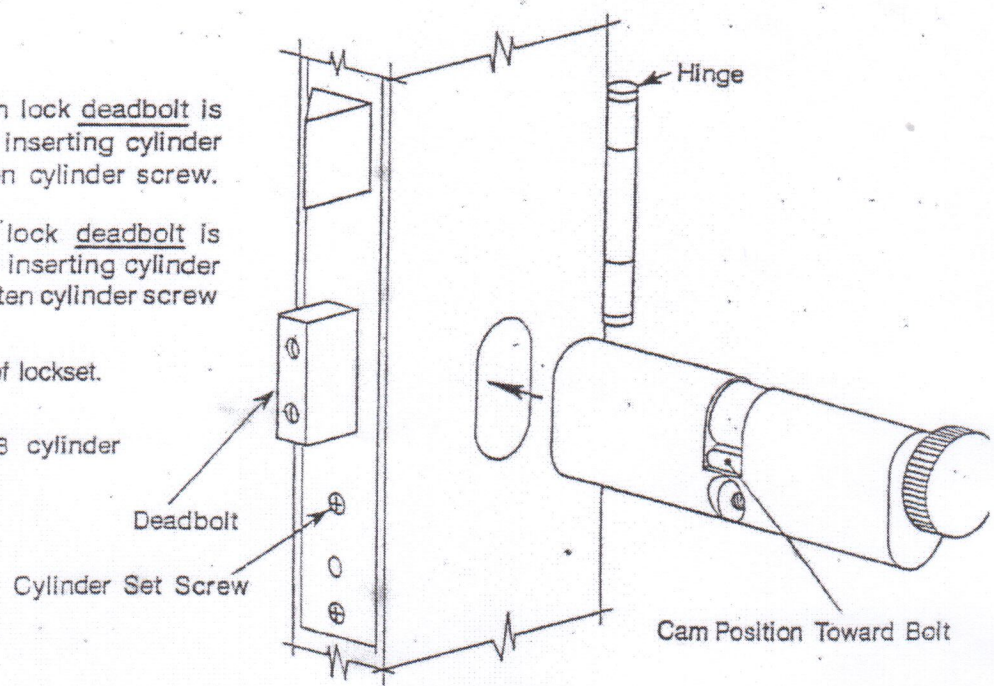

Fig. 2
- B. Left Hand Door: Be certain lock deadbolt is in extended position before inserting cylinder (cam toward deadbolt). Tighten cylinder screw (Fig.2).